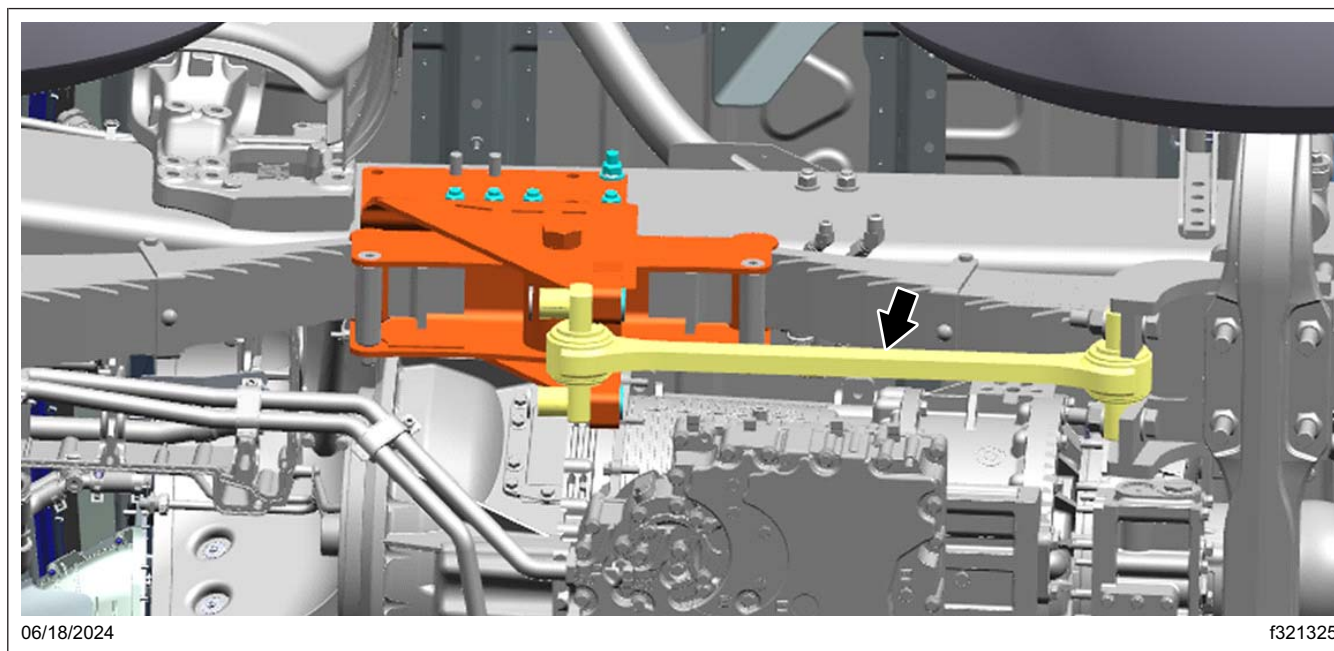

Fig. 10, Torque Rod
5. Remove the torque rod from the mid-suspension hanger. See Fig. 10.